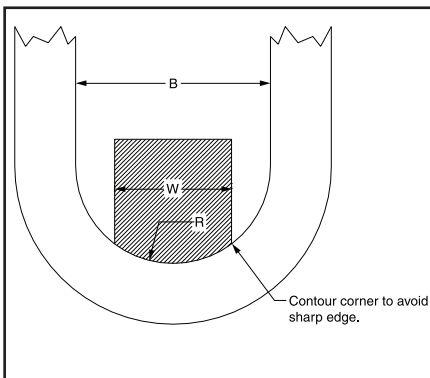

Figure 1
Crosby master links and master link assemblies are proof tested with special fixtures in accordance with ASTM A952. While other specifications such as EN 1677-4 and AWRP Recommended Guideline for Proof Test Procedures for Slings related to master link and master link assemblies also allow for the use of special fixtures when proof testing, Crosby follows the guidelines set forth in ASTM A952. The purpose of the special fixture is to prevent localized point loading during the proof test. Point loading at the proof test load may result in permanent deformation. The proof test fixture per ASTM A952 allows for a maximum fixture width (W) of 60% of the inside width (B) of the master link. The radius of the fixture (R) is one-half of inside width of the master link. A sketch showing an example of the special fixture is shown in Figure 1. Note that the corner of the fixture should be contoured so that a sharp edge does not make contact with the master link during the loaded condition.